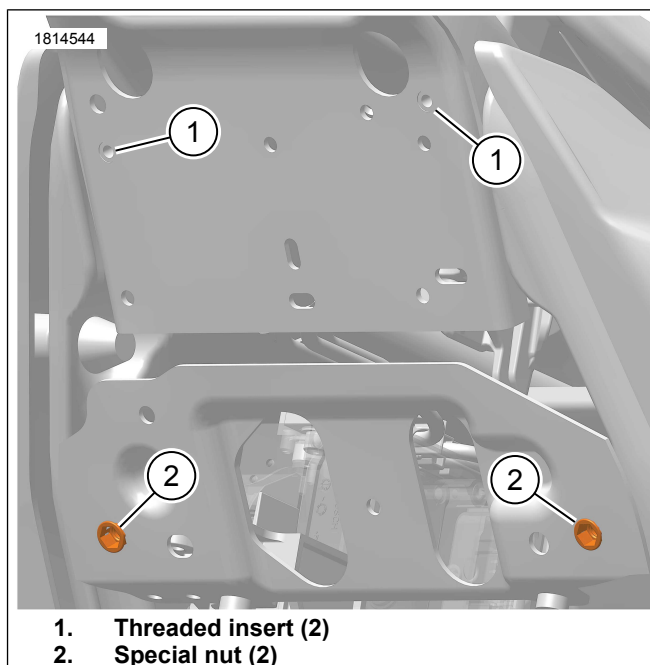

Figure 2. Special Nut
1. Figure 2 Install special nut (2) into bottom hex hole.
- b. Figure 2 Insert screw fully into special nut (2).
- c. Press special nut (2) assembly firmly against crossmember.